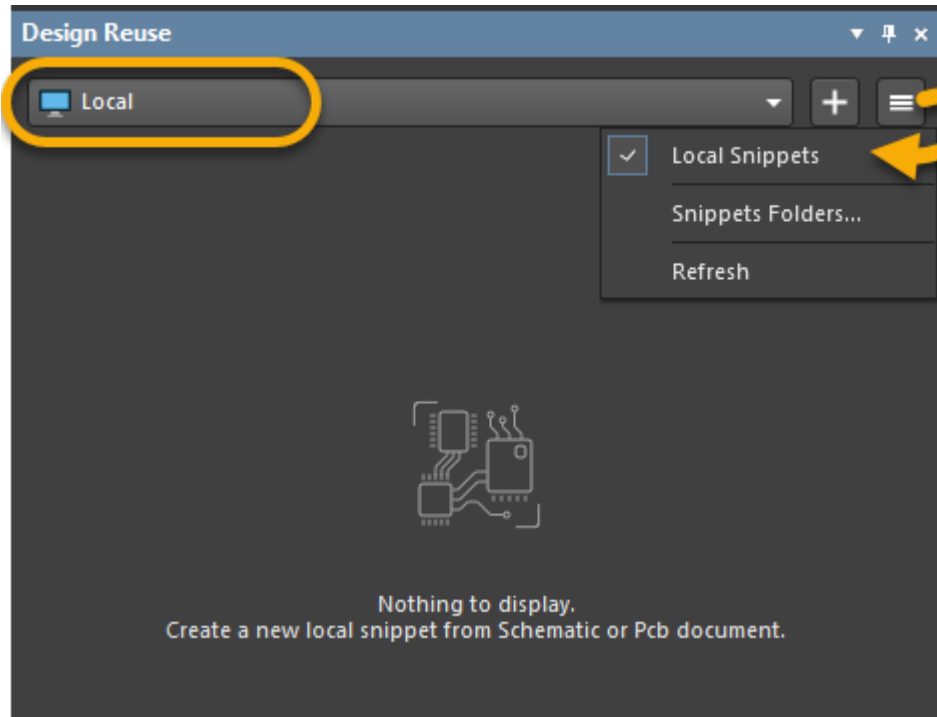

Figure 1. Local Snippets
4. Check that the **Local Snippets** are active and selected, use Figure 1 as reference.